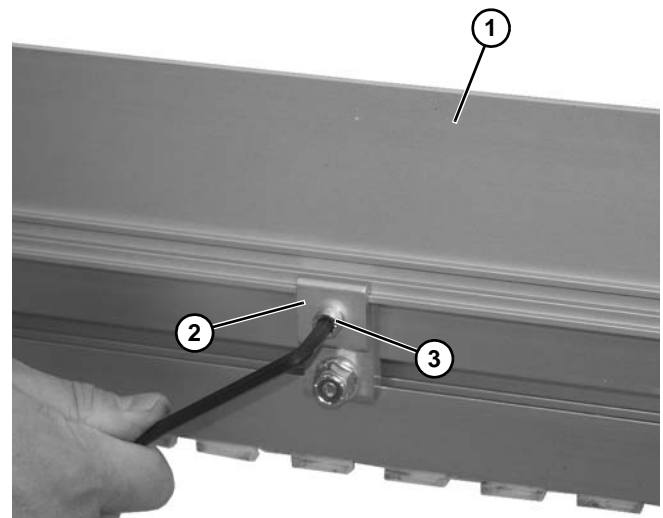

Figure 67
5. Install guide (Figure 67, item 1) and retaining clip (Figure 67, item 2) to conveyor side rail with socket head screw (Figure 67, item 3).